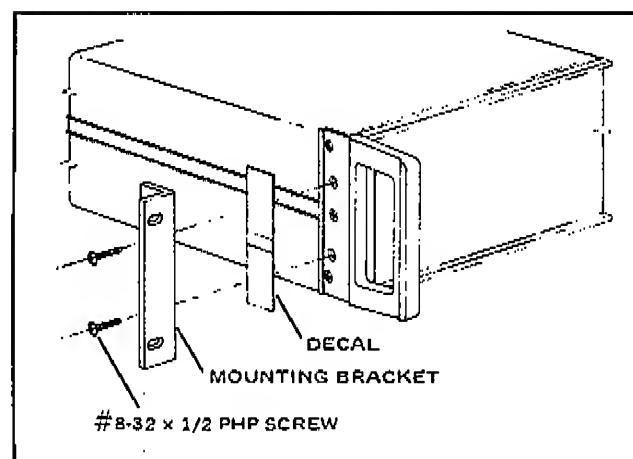

Figure 2-1. RACK MOUNTING BRACKET
2-9. The synthesizer is designed for bench-top use or it can be installed in a standard 19 inch equipment rack with the mounting brackets shown in Figure 2-1 and 2-2. Rack mounting is done as follows:
- a. Peel the decals shown in Figure 2-1 from the front corner castings.